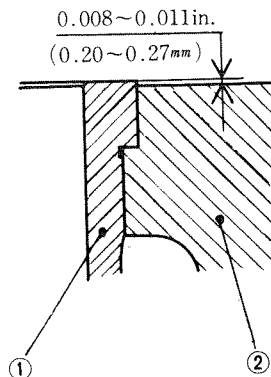

Fig. 22 Protrusion of Cylinder Liner
- 3) The top clearance should be 0.035 to 0.043 in. (0.9 to 1.1 mm). Use cylinder gasket shim (thickness 0.008 in (0.2mm)) and make the adjustment. To check the measurement of the top clearance, tighten the cylinder head securely in the order shown in next section. The measurement should be taken by a fuse. The cylinder gasket shim should be inserted on the head side. The protrusion allowance of the top surface of the liner above the cylinder frame is 0.008 to 0.011 in. (0.20 to 0.27 mm) as shown in Fig. 22. If the liner should be in excess of this figure, it may become the cause of troubles.
It should be added that if the cylinder liner is replaced great attention should be paid to the protrusion of the cylinder liner shown in Fig. 22.